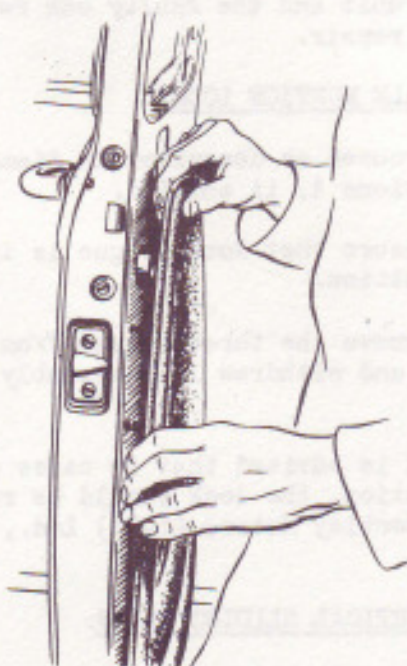

FIG. 5. REMOVING TRIM PANEL.
- (b) Carefully pry the panel away from the door frame, commencing at the top, unsnapping the concealed spring fasteners. (See Fig.5.)